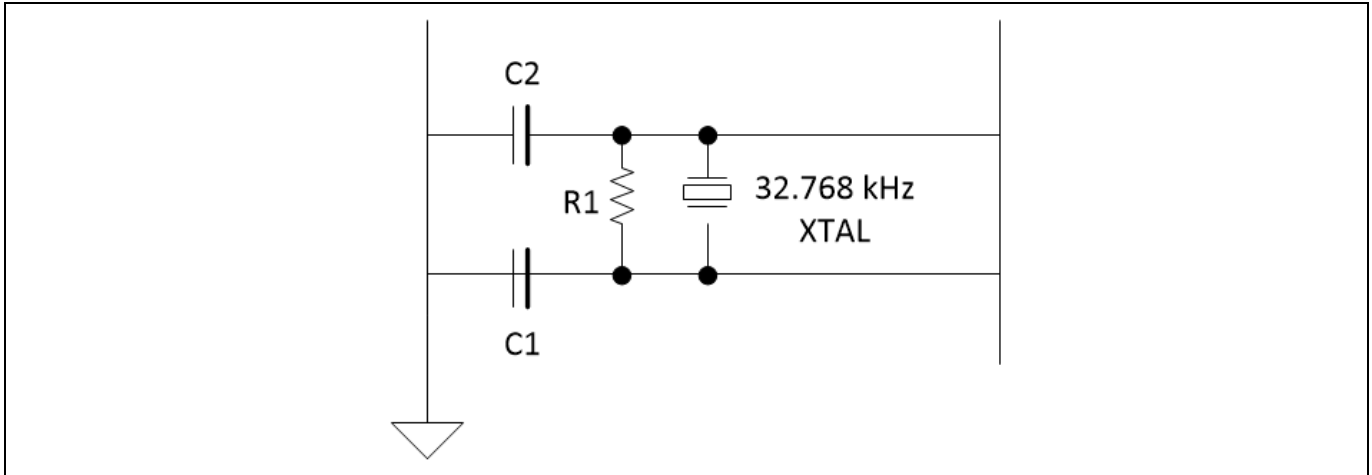

Figure 12 32-kHz oscillator block diagram
CYBT-4230xx-02 utilizes the built-in local oscillator (LO) on the CYW20719/21 silicon device for 32-kHz timing. The accuracy of the LO is ± 500 ppm. The use of an external XTAL oscillator is optional. CYBT-4230xx-02 includes external XTAL oscillator connections for applications requiring higher timing accuracy. **Figure 12** shows an external 32-kHz XTAL oscillator with external components and **Table 9** lists the recommended external oscillator’s characteristics. This oscillator input can be operated with a 32-kHz or 32.768-kHz crystal oscillator or be driven with a clock input at similar frequency. The default component values are: $R1 = 10\text{ M}\Omega$ and $C1 = C2 = \sim 6\text{ pF}$. The values of $C1$ and $C2$ are used to fine-tune the oscillator.